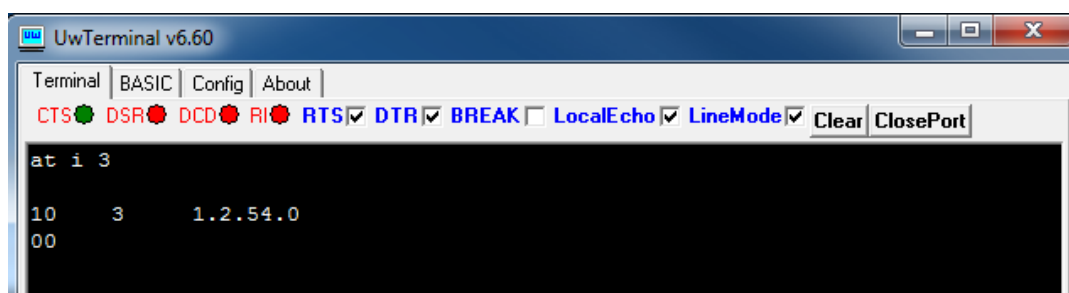

Figure 12: Issuing AT I 3 to check firmware version
5. Send the string *AT I 3* as shown in Figure 12: